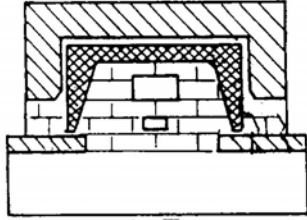

Fig. 1 Hearth plan at floor level
**Step 1** Finish the foundation with a layer of firebrick upon which to set the Heat-Circulator Unit. The firebrick should extend beyond the Heat-Circulator at the sides and back and be at least flush with the front of the Heat-Circulator. If the fireplace is to have an ashpit, the ash dump should be put in at the time the firebrick base is laid. Do not lay firebrick up into the metal firebox of the Heat-Circulator. (See Figure 1) Note: Fresh Air Kit is being utilized, the control box should be put in at the time the firebrick base is laid. See Reverse Fresh Air Inlet Kit instruction.